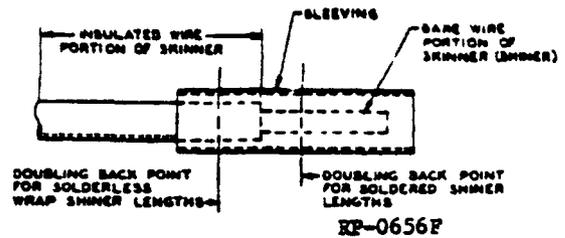

FIG. 7 SLEEVING SKINNER ENDS OF UNCONNECTED LIVE LEADS (PARS. 3.721, 3.722)
3.721 Leads at Soldered Type Terminals: Place the sleeving over the end of each live lead so that it extends at least 1/4" beyond the end of the bare wire and extends a minimum of 1/4" over the insulated portion of the skinner. Bend the sleeved end of the skinner approximately at the center of the sleeve as shown in Figure 7.
3.722 Leads at Solderless Wrap Type Terminals: Place the sleeving over the end of each live lead so that it extends at least 1/4" beyond the end of the bare wire and extends a minimum of 1/2" over the insulated portion of the skinner. Bend the sleeved end of the skinner approximately 1/4" from the end of the sleeve located at the insulated part of the skinner as shown in Figure 7.